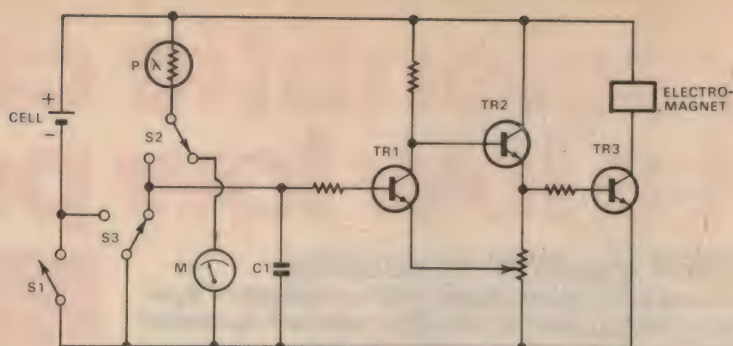

FIG 1
**Circuits:** One of the most commonly employed circuits in the relatively more economical cameras is a Schmitt trigger circuit. An example is the circuit used in the automatic Vitessa 500AE camera, for an exposure time range of 1/500 to 10 seconds; this circuit is shown in Fig. 1.